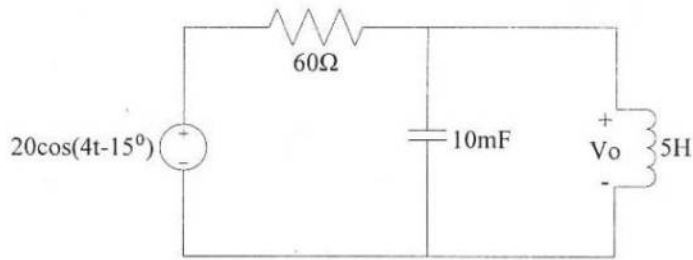

Figure 3(b)
- b. Determine $V_o(t)$ in the circuit shown in figure 3(b) [15]